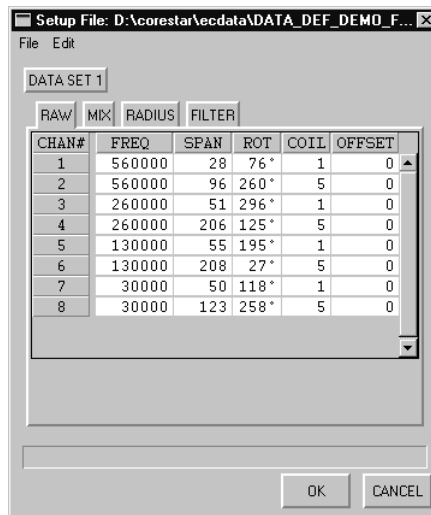

Figure 3-94. Setup Dialog
Clicking the **SETUP** button shown in Figure 3-40 causes the dialog shown in Figure 3-94 to appear. This dialog is used to view *raw* inspection frequencies for the currently selected cal group via the **DATA SET 1** button, setup & perform **Mixes**, and setup & apply **Filters**. The menu bar features will be discussed first.
The **Setup** dialog contains two (2) menu selections as shown in Figure 3-94. They are: **File** and **Edit**. The available choices under each of these menus are discussed below.